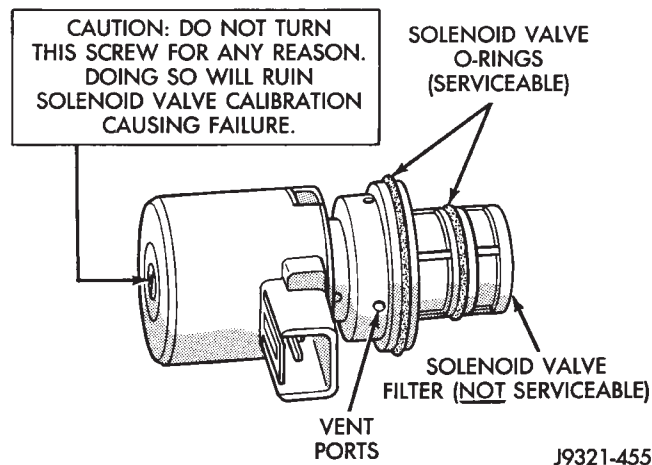
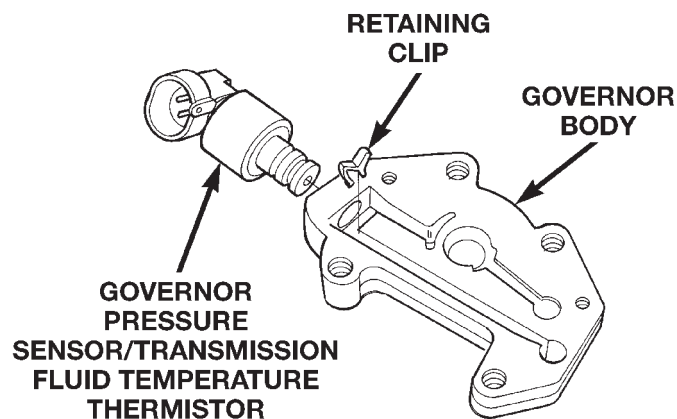

Fig. 116 Governor Pressure Solenoid
Fig. 117 Governor Pressure Sensor
CAUTION: Do not turn the small screw at the end of the governor pressure solenoid valve for any reason (Fig. 116). Turning the screw in either direction will ruin solenoid calibration and result in solenoid failure. In addition, the filter on the solenoid valve is **NOT** serviceable. Do not try to remove the filter as this will damage the solenoid valve housing.
- (1) Turn valve body assembly over so accumulator side of transfer plate is facing down.
- (2) Install new O-rings on governor pressure solenoid and sensor (Fig. 116) and (Fig. 117).
- (3) Lubricate solenoid and sensor O-rings with clean transmission fluid.
- (4) Install governor pressure sensor in governor body. Then secure sensor with M-shaped retaining clip (Fig. 117).